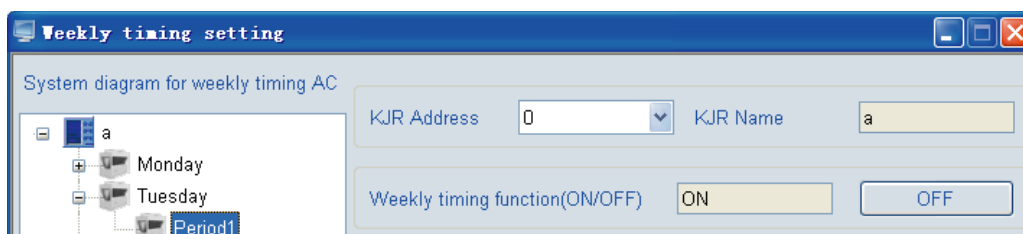
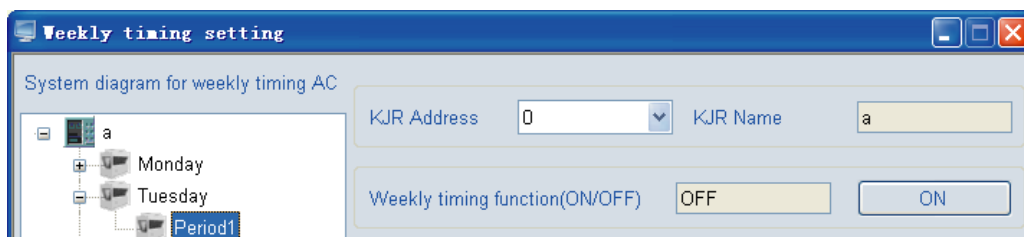
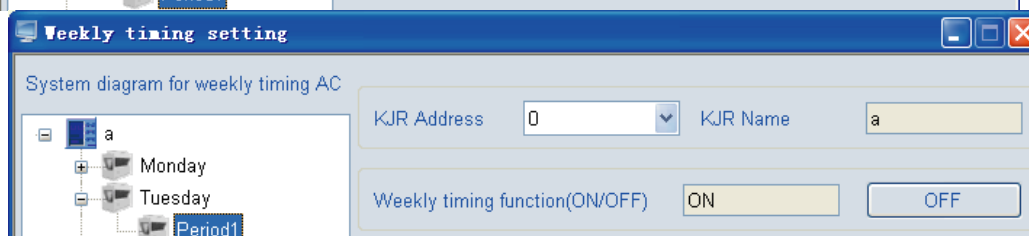

Fig.4-30
Fig.4-31
Fig.4-32
- d. Timing ON/OFF key for controlling the weekly timing wired controller (See the ① key in the figure) —— when Weekly Timing Function is ON, the key shows OFF (see Fig. 4-30), once click the key, all weekly timing function would be turned off, and then the Weekly Timing Function displays OFF, while the key shows ON (see Fig. 4-31); when Weekly Timing Function is OFF, the key shows ON (see Fig. 4-38), once click the key, all weekly timing function would be turned on, and then the Weekly Timing Function displays ON, while the key shows OFF (see Fig. 4-32)